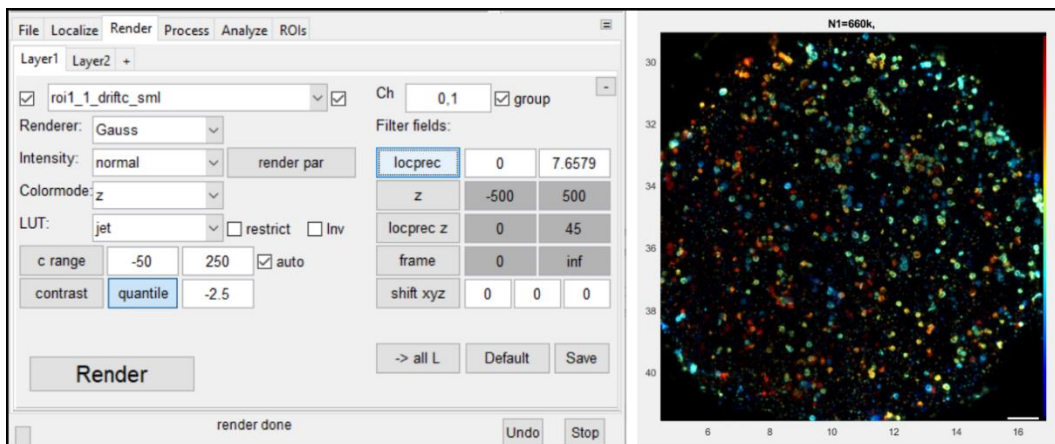

Figure 9: Render the 2D images with color coding as per the z position of the localizations.
6. An overview of this step is shown in Figure 9.